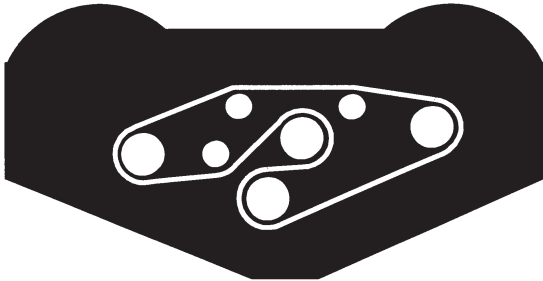

Figure 31
- Route the new belt around the spindle pulleys and idler pulley assembly, as shown in Figure 31.